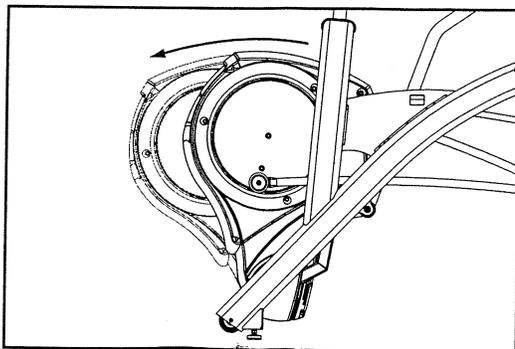

Figure 4
A. Carefully tilt the front end assembly forward until it stops. See Figure 4.